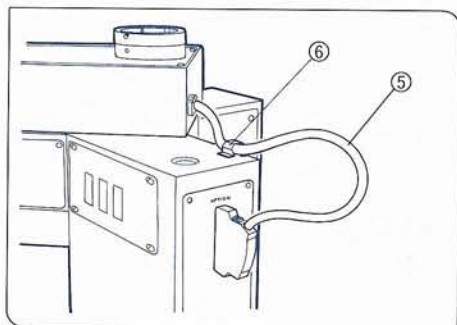

Fig. 61
5. Attach the cable stopper ⑥ as shown in the diagram, and insert the communication cable into it. Then, connect the communication cable ⑤ to the OPTION connector on the microscope frame. (Fig. 61)